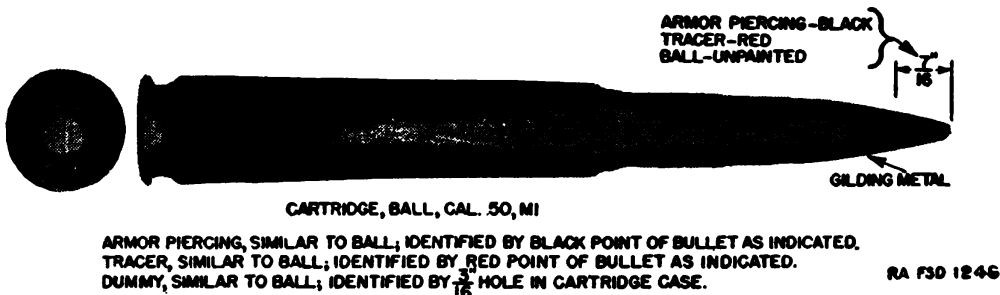

FIGURE 12.—Cartridge, ball, caliber .50, M1.
b. When removed from their original packing containers, cartridges may be identified, except as to ammunition lot number and grade, by physical characteristics as described below and illustrated in figure 12. Care should be taken not to confuse these original markings with any subsequent markings made with lithographic marking ink, which is used for an entirely different purpose. (See par. 30.)